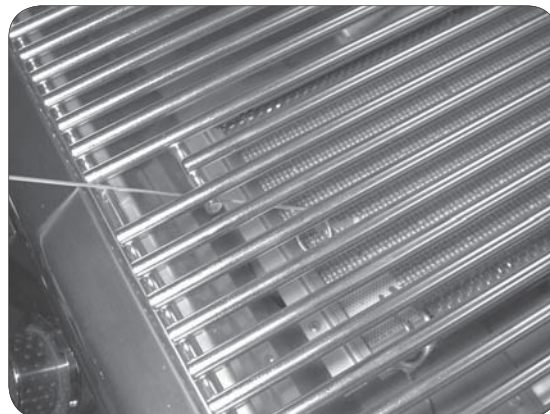

Fig. 13-2 - Manual lighting
2. Insert either a burning long-barrel butane lighter, a burning long-stem match, or a burning match held by a wire extension holder through the cooking grid opening to the top of the burner (Fig. 13-2).
4. If the burner does not light, **immediately depress the knob and turn the valve to OFF**. **WAIT FIVE (5) MINUTES** before repeating steps 2 through 4 of the **MANUAL LIGHTING** instructions.